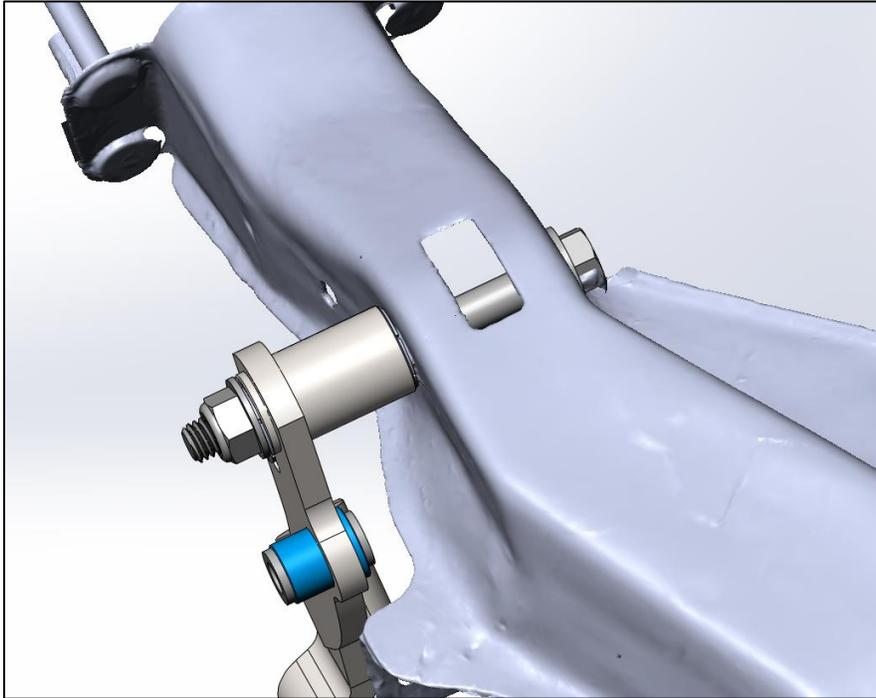

Figure 3: Installed Clutch Pedal
18. Using the supplied 7/16-14 bolt, nylon locking nut, and washer install the clutch pedal assembly as shown in Figure 3 onto the pedal box and torque to 20 ft./lbs.